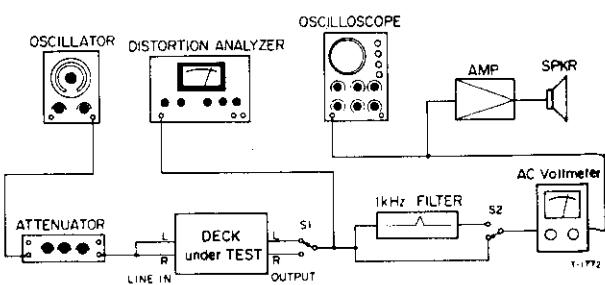

Fig. 5-1 Basic test setup
16. Erase efficiency	<ul style="list-style-type: none"> <li>Connection is same as in Fig. 5-1, but engage 1-kHz filter.</li> <li>Record a 1-kHz signal. Rewind tape to midpoint of recorded portion. Record a "no signal" portion. Find the difference between the 1-kHz portion and the "no-signal" portion.</li> </ul>
17. REC MUTE function	<ul style="list-style-type: none"> <li>Connection: Fig. 5-1, but engage 1-kHz filter.</li> <li>Record a 1-kHz signal. Push REC MUTE button for several seconds. Rewind and play the tape. Find the difference between the 1-kHz portion and the "no-signal" portion.</li> </ul>
18. Channel separation	<ul style="list-style-type: none"> <li>Connection: Fig. 5-1, but do not connect LINE IN (R), and engage 1-kHz filter.</li> <li>Set the deck to record mode. Find the difference between the 1-kHz recorded portion (L-ch) and the "no signal" portion (R-ch).</li> </ul>
19. Adjacent track crosstalk	<ul style="list-style-type: none"> <li>Connection: Fig. 5-1, but do not connect LINE IN (L) and OUTPUT (L).</li> <li>Record a 125-Hz signal on R-ch and note output level. Invert tape and play R-ch track. Check leakage level against the output reference of previously recorded portion.</li> </ul>